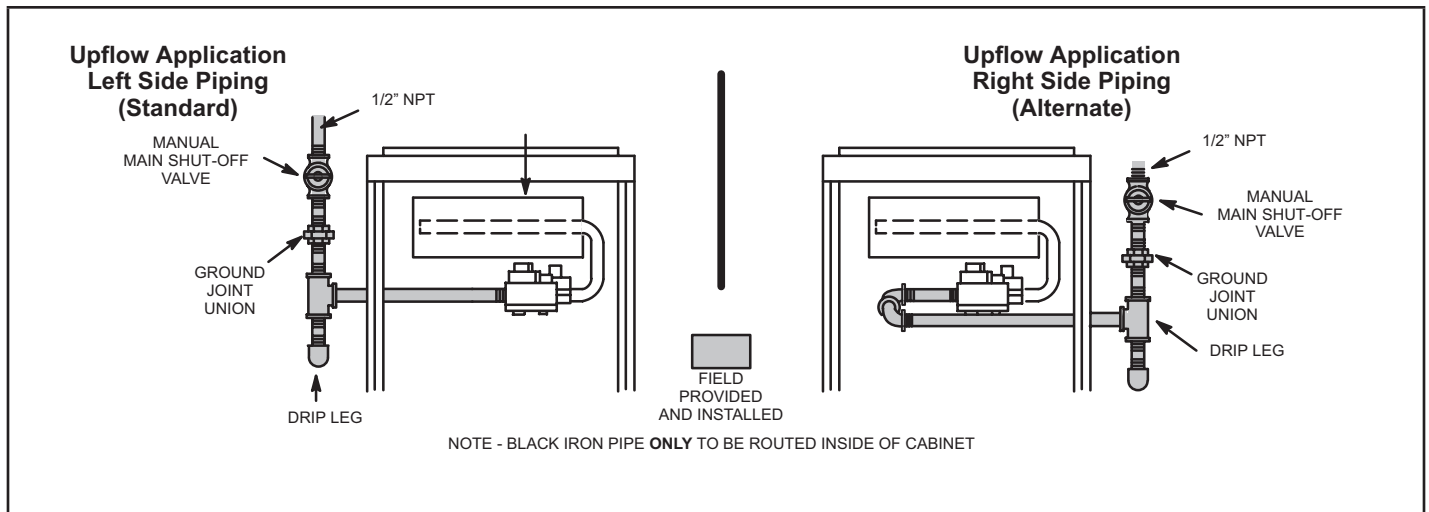
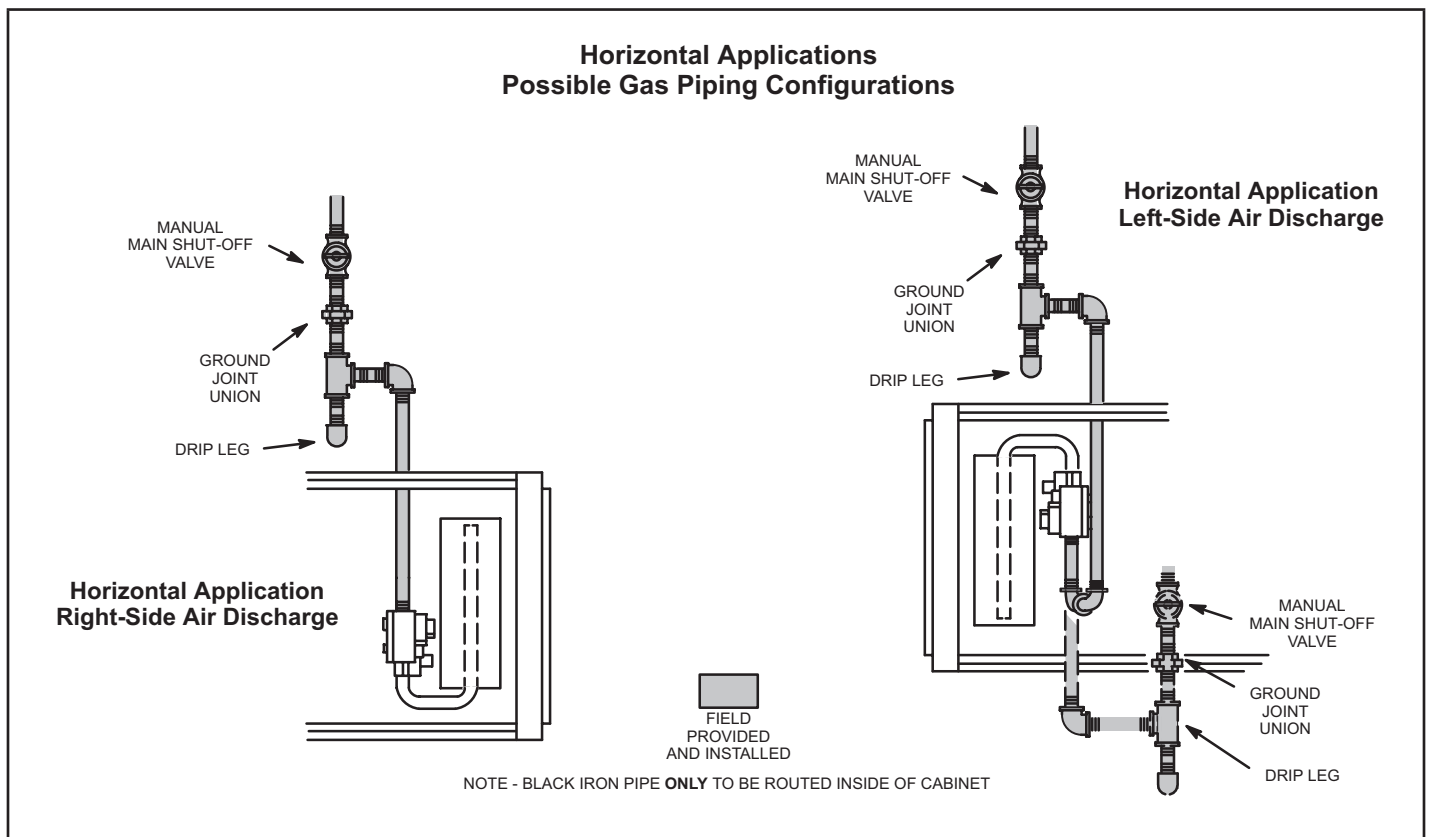

Figure 55
Figure 56
- 1 - Gas piping may be routed into the unit through either the left- or right-hand side. Supply piping enters into the gas valve from the side of the valve as shown in figure 55. Connect the gas supply piping into the gas valve. The maximum torque is 800 in lbs and minimum torque is 350 in lbs when attaching the gas piping to the gas valve.
- 3 - Gas piping must not run in or through air ducts, clothes chutes, chimneys or gas vents, dumb waiters or elevator shafts. Center gas line through piping hole. Gas line should not touch side of unit. See Figure 55 and Figure 56.